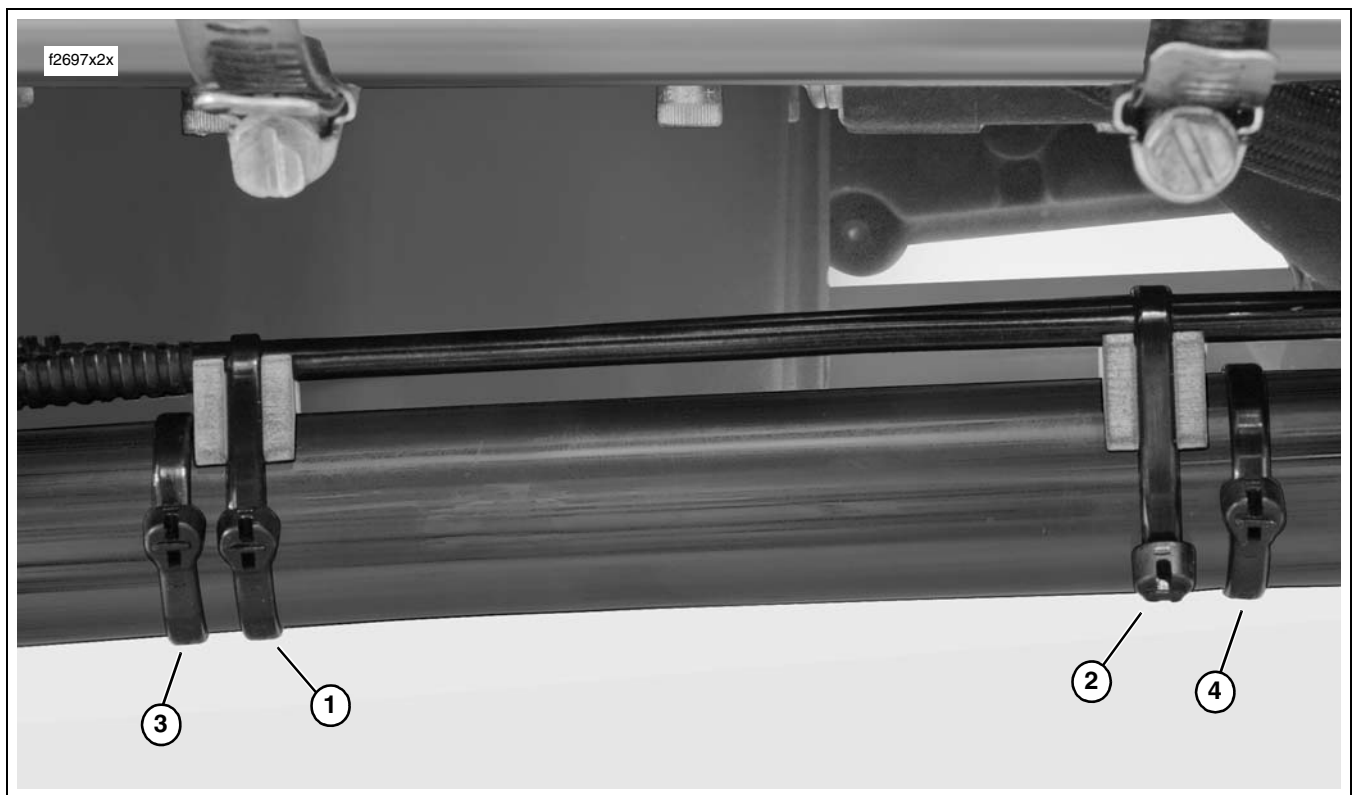

Figure 6. Install Two Short Frame Guides and Four Cable Straps at Lower Frame Tube
6. See items 1 and 2 of Figure 6. Capturing three brake lines and lower frame tube, install **new** cable strap in slot of two short frame guides. Do not capture main harness conduit.
7. See items 3 and 4 of Figure 6. Install **new** cable strap at rear of rear short frame guide and at front of front short frame guide capturing lower frame tube and main harness conduit only.
10. See items 1 and 2 of Figure 6. Capturing three brake lines and lower frame tube, install **new** cable strap in slot of two short frame guides. Do not capture main harness conduit.
11. See items 3 and 4 of Figure 6. Install **new** cable strap at rear of rear short frame guide and at front of front short frame guide capturing lower frame tube and main harness conduit only.